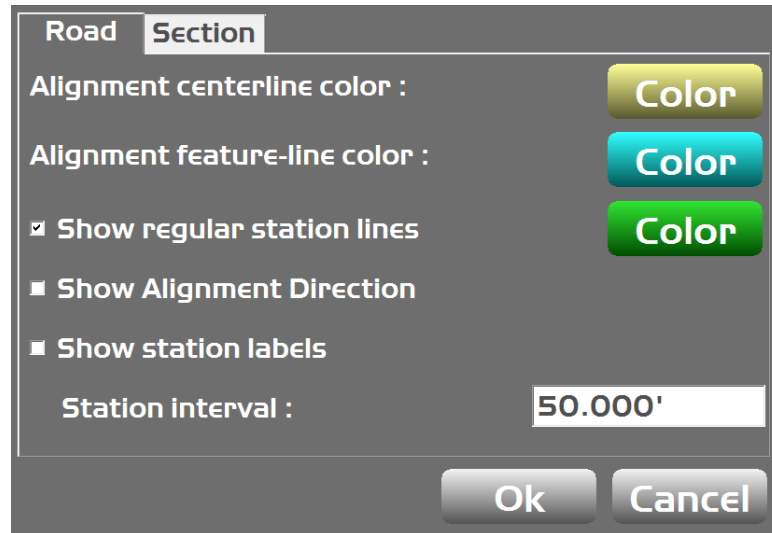

Figure 103: Select a Color for the Road Parameters
3. Select a color from the **Color Selection** screen and tap **OK** (Figure 103).